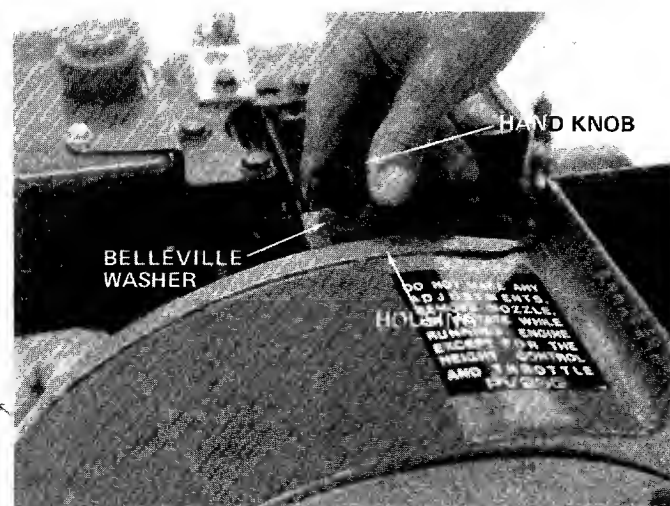

FIGURE 12.
4. Remove the hand knob and bellville washer holding the housing to engine brace. See figure 12.